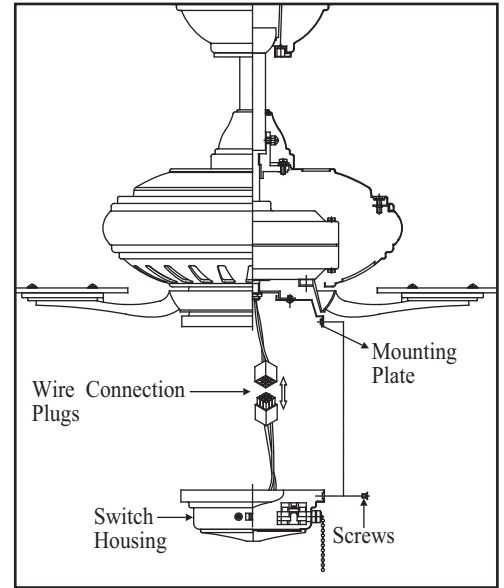

Figure 23
2. Install the switch housing to the mounting plate with screws provided. (Fig. 23)